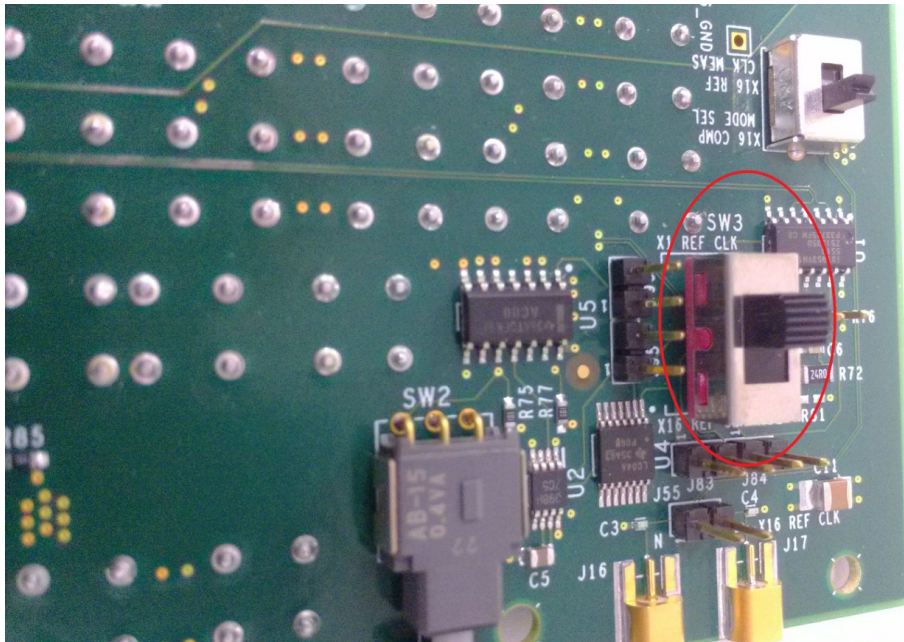

Figure 6. SW3 switch setting
- Set the slide switch SW3 to “x1 REF CLK”, as shown in Figure 6.